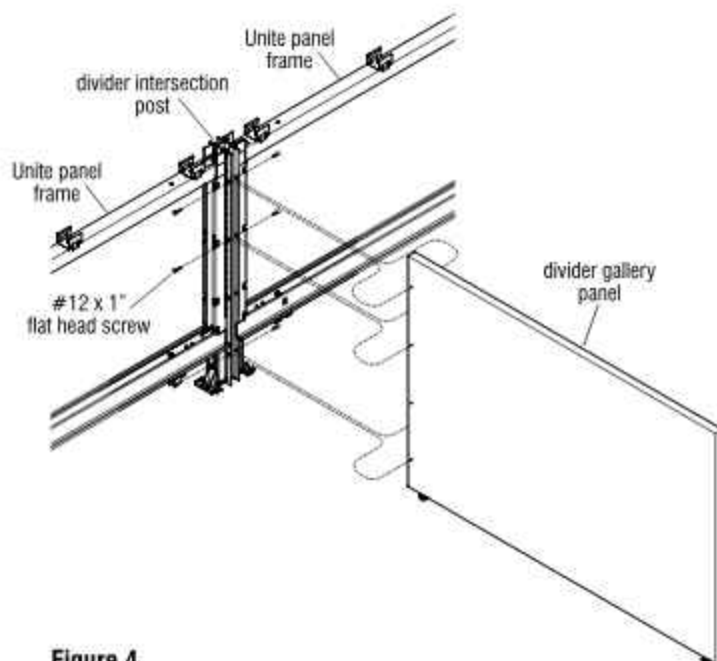

Figure 4
6. Next, slip the divider panel end with the pre-drilled holes into the divider intersection post (Figure 4). Make sure the counter-sunk holes in the divider intersection post align with the pre-drilled holes in the panel (Figure 4).